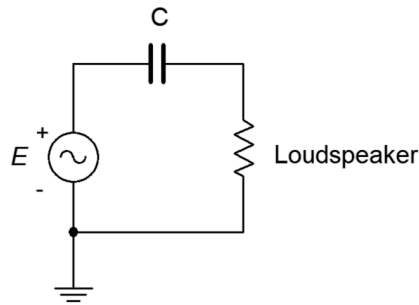

Figure 2.38
66. The circuit of Figure 2.38 can be used as part of a loudspeaker crossover network. The goal of this circuit is to steer the high frequency tones to the high frequency transducer (labeled here as “Loudspeaker” and often referred to as a *tweeter*). A similar network substitutes an inductor for the capacitor to steer the low frequency tones to the low frequency transducer (AKA *woofer*). These networks can be pictured as frequency sensitive voltage dividers. At very low frequencies, X_C is very large and blocks low frequency tones from reaching the tweeter. A mirror situation occurs with the